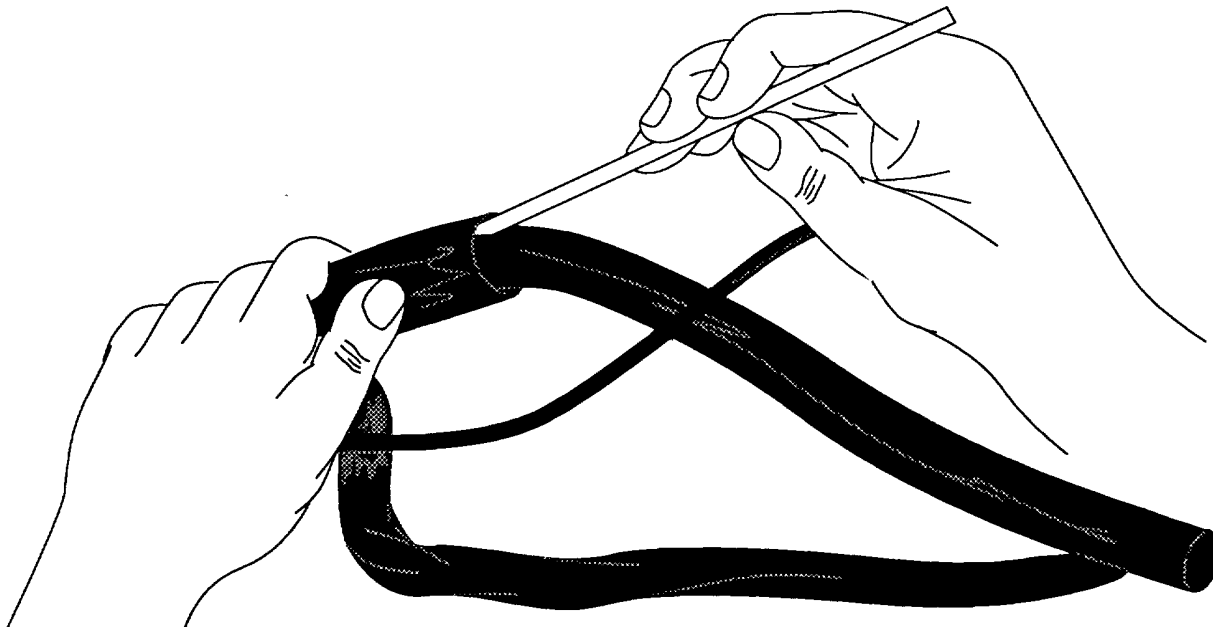

Figure 23. Inserting Adhesive
- c. Use an applicator stick to work adhesive into space between jacket and boot or transition (Figure 23)